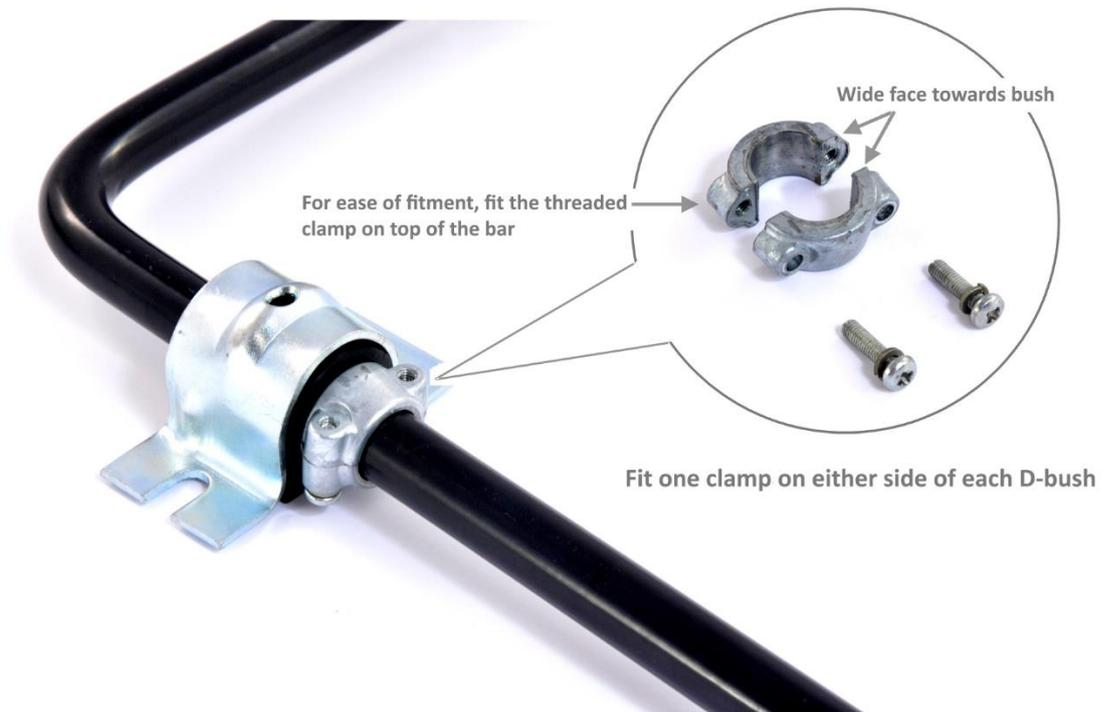

Fig. 4 Position and orientation of the D-bush clamps
- e) When you are happy with the position of the anti-roll bar, fit the four D-Bush clamps that are provided to prevent the bush moving sideways (see. Fig. 4)